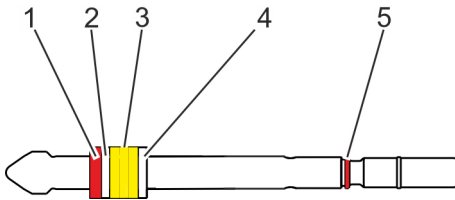

Fig. 27: The stem varies with stuffing box elements (number of packing rings varies)
- 18.▶ Take the O-ring (Fig. 27/5) off of the stem.
- 19.▶ Take the chamber ring (Fig. 27/4) off of the stem.
- 20.▶ Take the packing ring (Fig. 27/3) off of the stem.
- 21.▶ Take the chamber ring (Fig. 27/2) off of the stem.
- 22.▶ Take the bottom ring (Fig. 27/1) off of the stem.